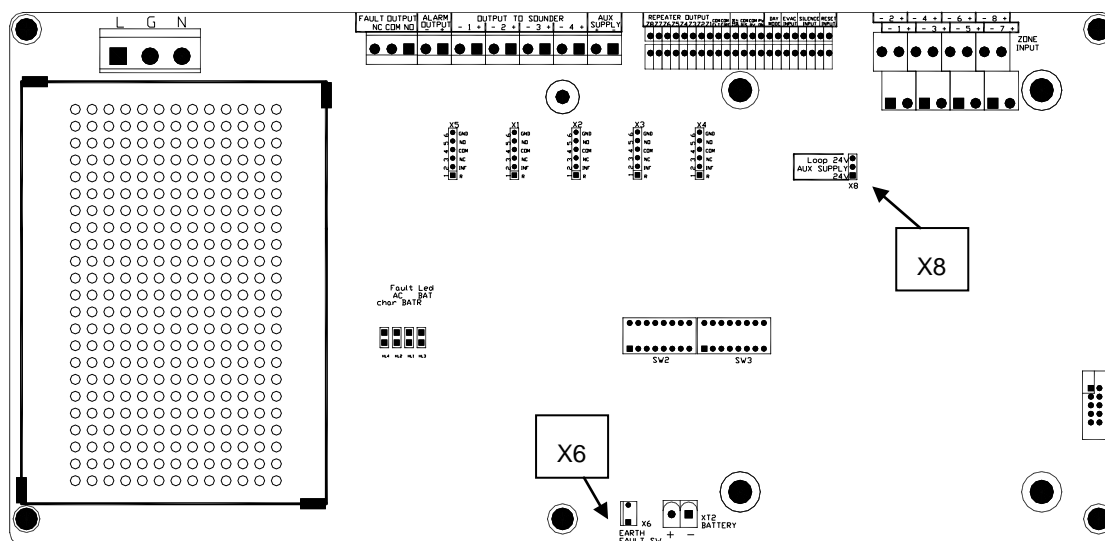

Fig. 3-6
- ✧ Shorting X6 (EARTH FAULT) with a jumper, refer to Fig.3-6. The FACP will be able to check earth fault. Otherwise, the earth fault can't be checked.
- ✧ Setting auxiliary power output: If the devices powered by Aux. 24V require steady output, you can connect 24V and AUX SUPPLY of X8 (refer to Fig. 3-6) with a jumper. If they are to be reset together with the FACP, you can connect Loop 24V and AUX Supply with a jumper, so that AUX Supply stops output for about 3 seconds when the panel resets.